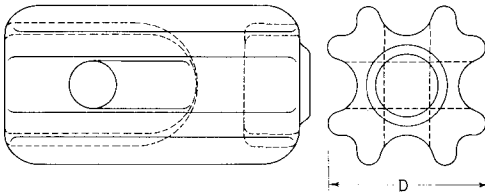

Fig. 2—Insulator—Multiple Fin Type
2.02 Insulators for 25M strand were also furnished in the so called "multiple-fin" type and these may be reused. Their general appearance is shown in Fig. 2. Multiple fin insulators should not be used unless they measure at least 6-1/2 inches by 3-3/8 inches. Such insulators carry a rating of 23,000 volts.